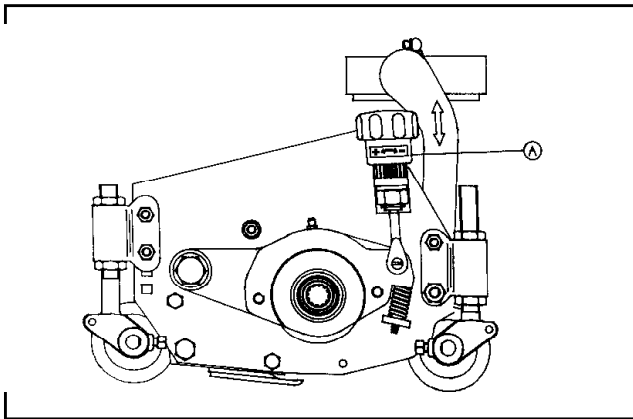

Fig.47
CUTTING CYLINDER TO BOTTOM BLADE ADJUSTMENT (FIG.47)
1. To adjust the cylinder to the bottom blade lift and turn alternately left and right hand handwheels (A Fig.47). (clockwise to put on cut anticlockwise to take off cut) and release, keep turning the handwheel until it locates in the serrated locking ring. The adjuster is of the notched type and each notch is moving the cylinder in increments of approximately 0.04mm (0.0015in).
AFSTELLING VAN MAAICILINDER OP ONDERSTE MES (Afb.47)
REGLAGE DU CYLINDRE DE COUPE PAR RAPPORT A LA CONTRE-LAME (FIG.47)